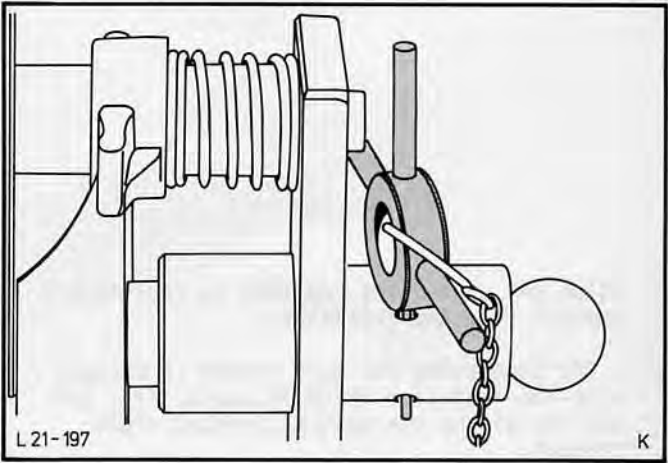

Fig.126. Fit stop gauge.
8. Slide stop gauge into the installer, Fig.126.